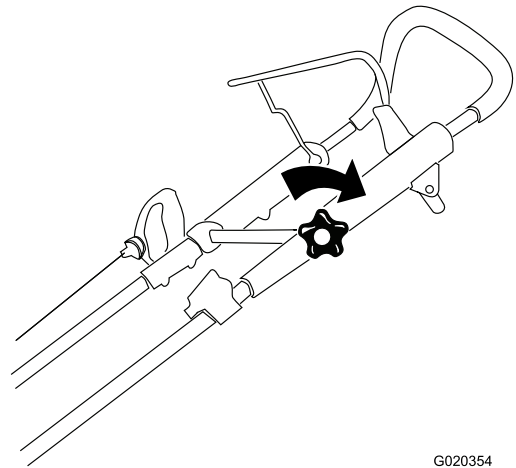

Figure 16
3. Tighten the upper handle knob firmly (Figure 16).